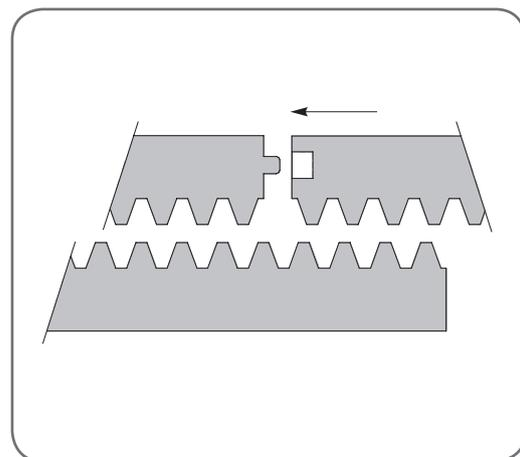

fig 05
5. When joining subsequent sections of rack, check the mesh by placing a spare section upside down (teeth facing upwards) and putting it into mesh with the racks being joined (**Fig. 05**).